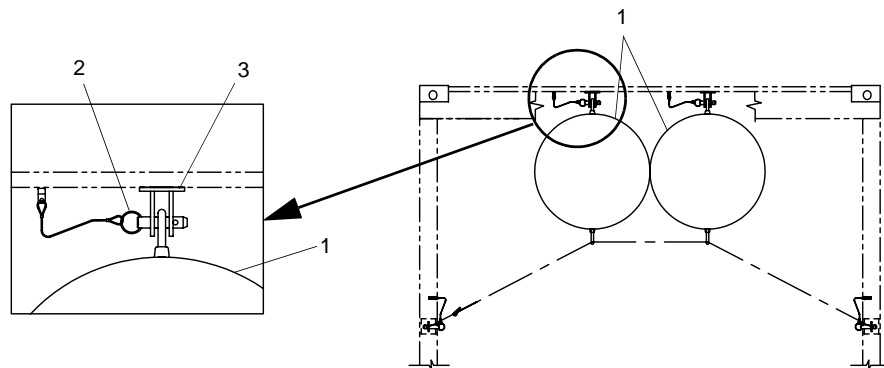

Figure 21. Anchor Buoy Stowage
13. Using assistant, support weight of anchor buoy (figure 21, item 1), remove pin (figure 21, item 2) from container bracket (figure 21, item 3), remove and position anchor buoy (figure 21, item 1) on FC platform. Repeat this step for second anchor buoy (figure 21, item 1).